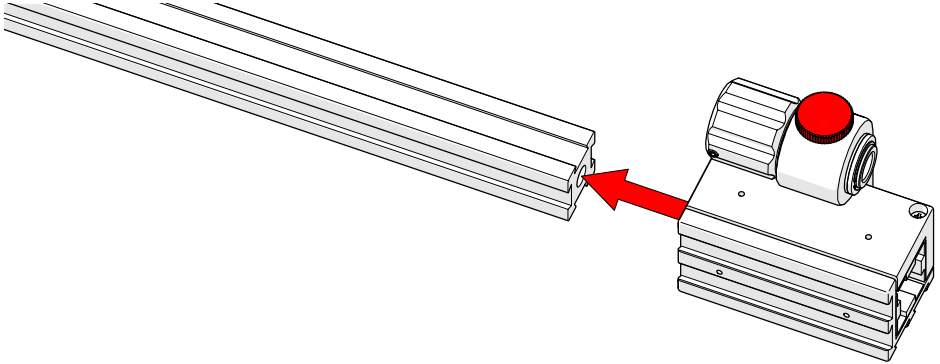

Fig. 246 - Place slider on frame bar and loosen slider lock knob
1. Lift the probe holder slightly to allow the release of the latch pin (*Fig. 246*).
1. Ease the slider onto the frame bar and push to into position (Fig. 246). The slider's friction fit requires an appropriate amount of force to position the slider.
2. Loosen the slider's lock knob (Fig. 246 - note red highlight).